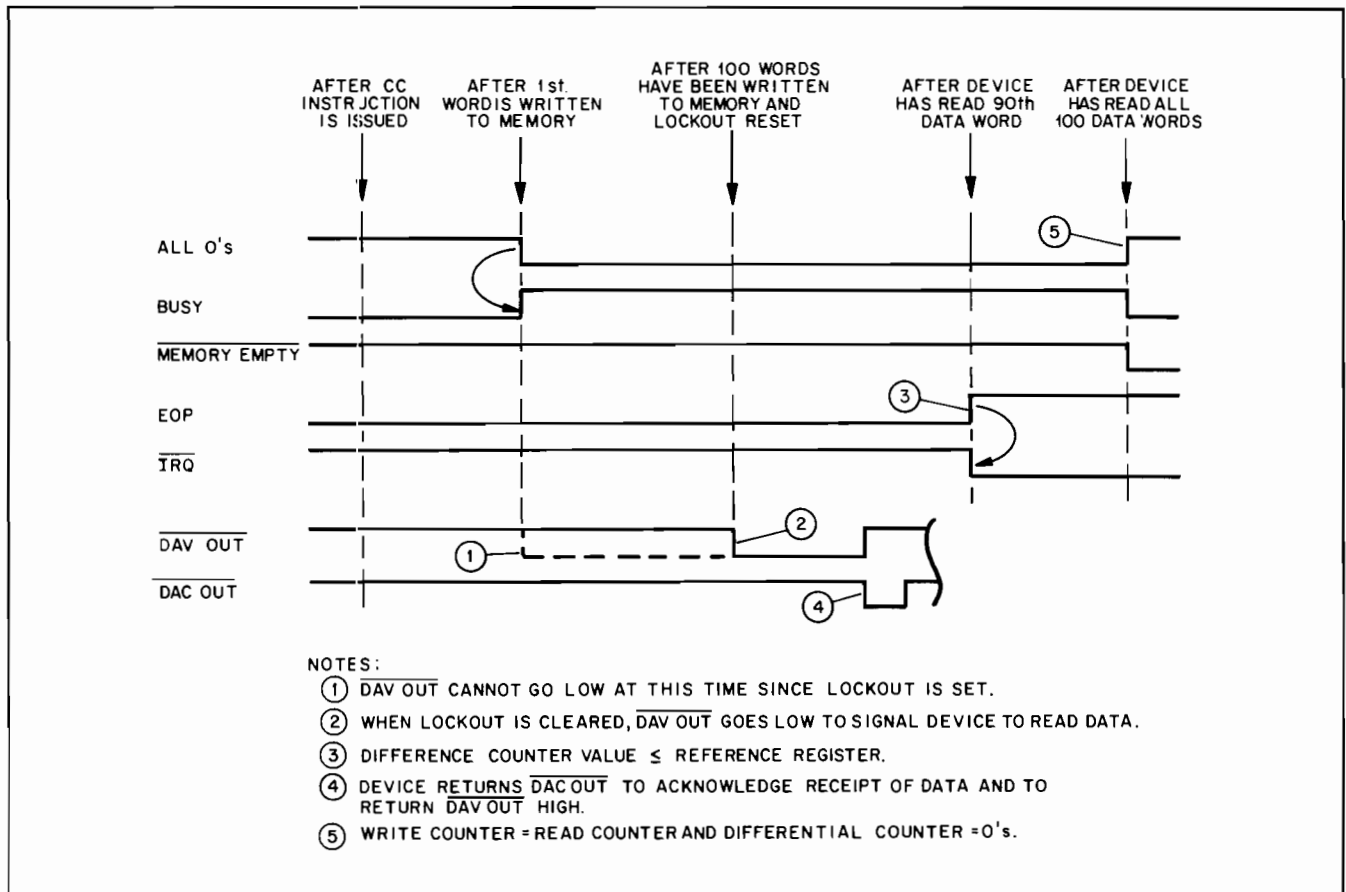

Figure 4-3. FIFO Output, Memory Timing Signals
- c. Since the difference counter is now non-zero, the ALL 0's line goes low, the BUSY line and MEMORY EMPTY lines to the device go high (see Figure 4-3).